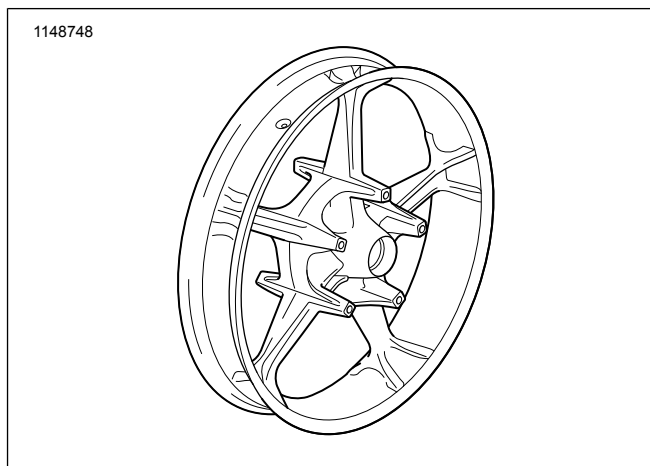

Figure 1. Service Parts: Aggressor Front Wheel Kits
2. See Figure 1. Install valve stem assembly (L) on wheel. Refer to TIRES in service manual.